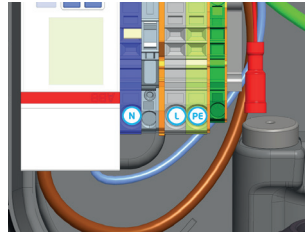
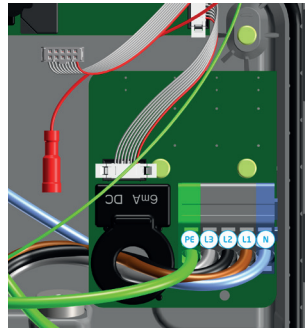

Figure 8a: Connection clamps power and Control Pilot (CP) connector for the charging cable (red) to S-line 1 phase.
Figure 8b: Connection clamps power and Control Pilot (CP) connector for the charging cable (red) to S-line 3 phase, Pro-line.
5. Attach the power cables to the connection clamps of the filter block (see figure 8a and 8b).
10. Attach the Control Pilot (CP) connector to the red connection cable. This is right next to the connection terminal for the power cables. See figure 8a (S-line 1 phase) and figure 8b (S-line 3 phase, Pro-line).